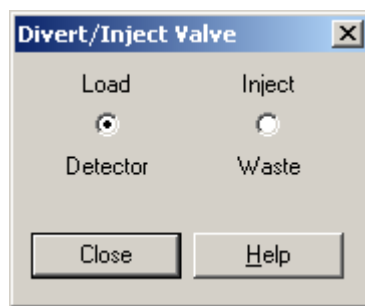

Figure 8-6. Divert/Inject Valve dialog box
- a. Click on the Divert/Inject Valve button to display the Divert/Inject Valve dialog box. See Figure 8-6.